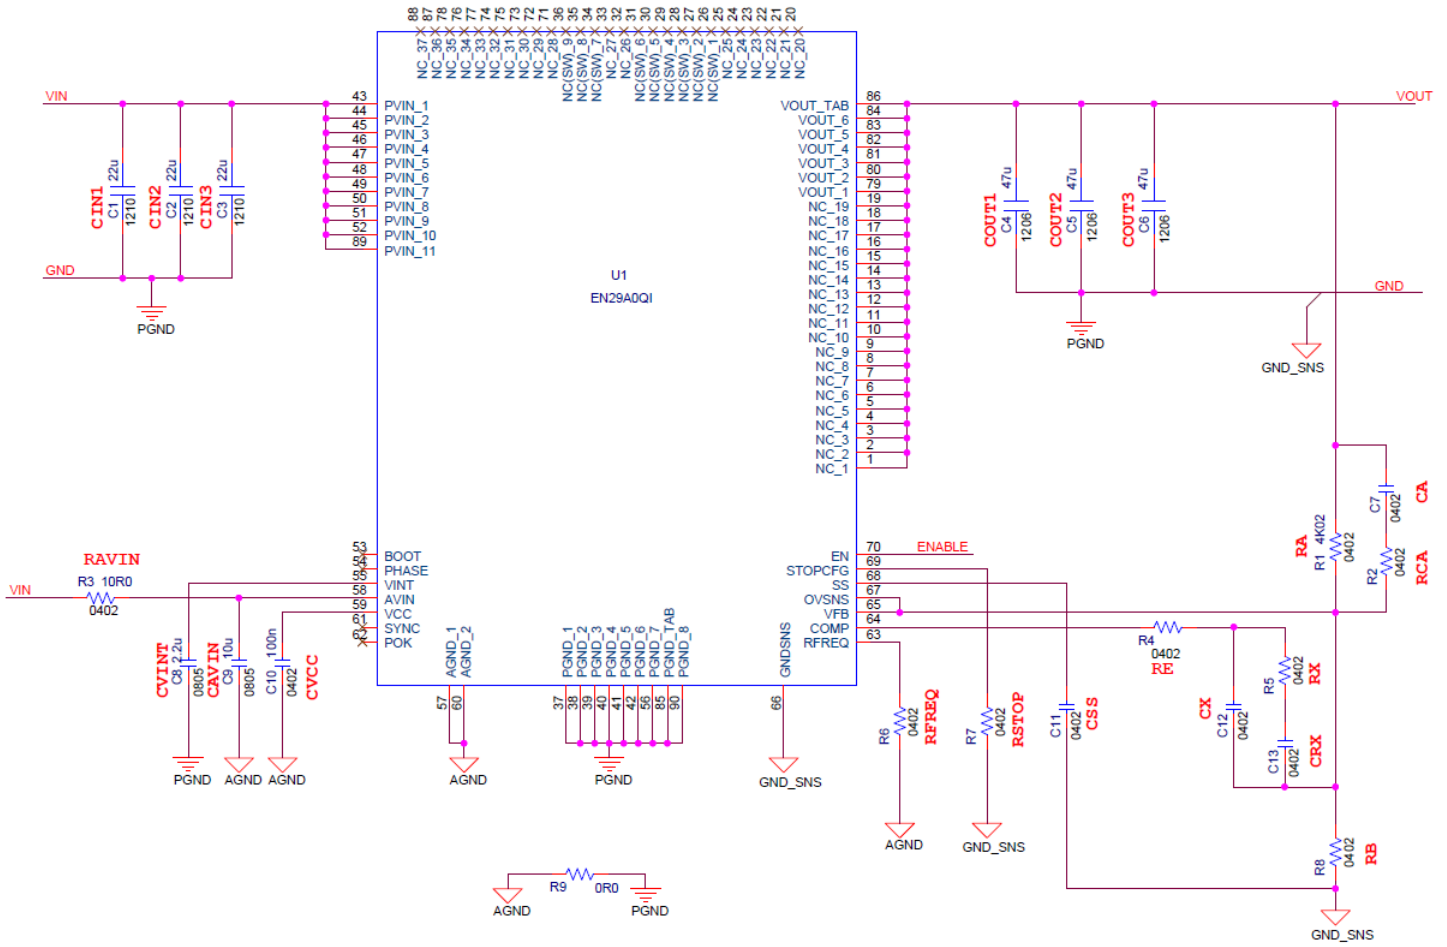
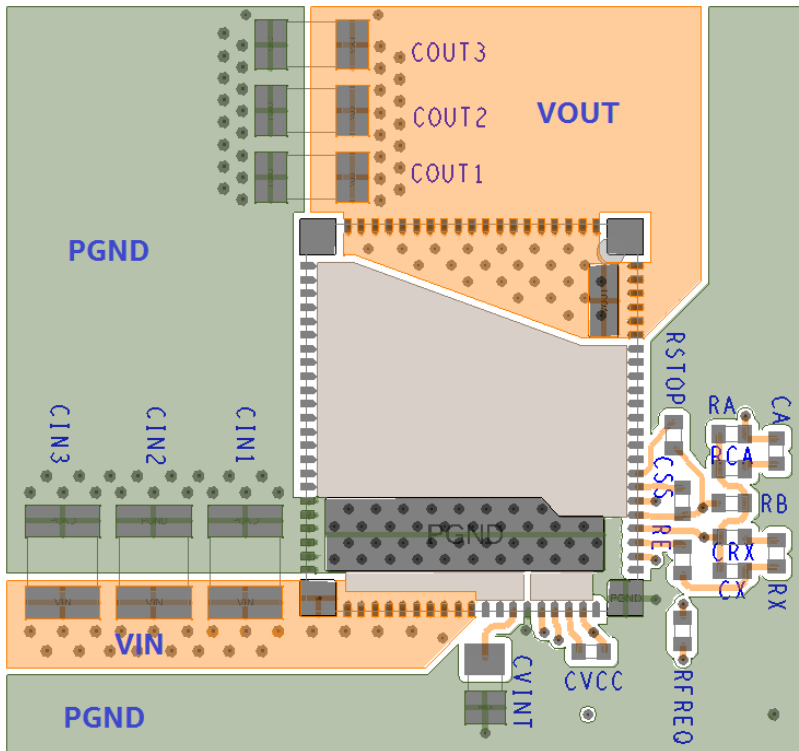
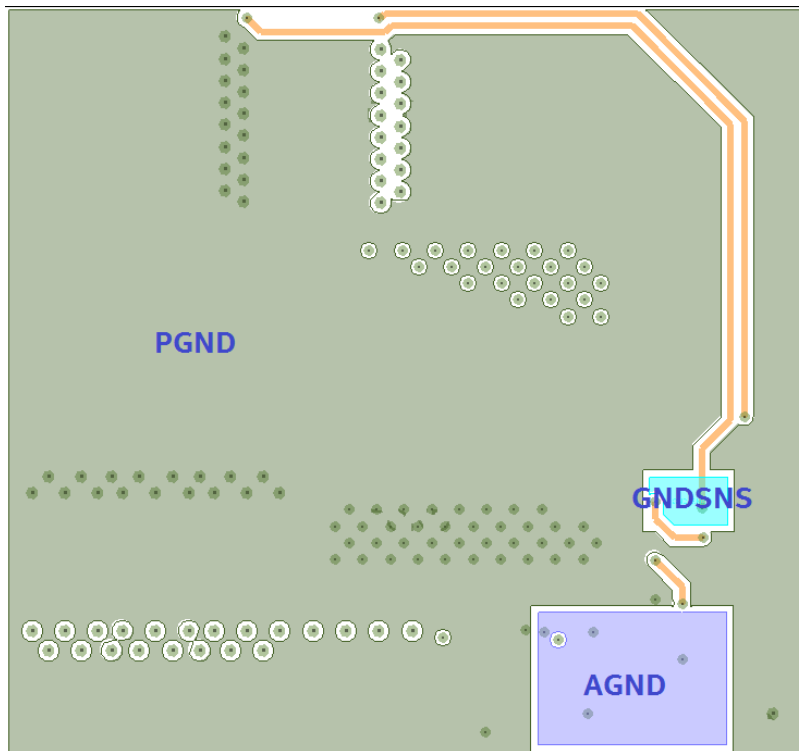

Figure 9: Typical Application Circuit
Figure 10: Top PCB Layer Critical Components and Copper for Minimum Footprint (Top View)
Figure 12: Inner Layer 3 – Grounds
Figures 10-13 shows critical components and traces of a recommended minimum footprint EN29A0QI layout. The Gerber files are available on the Altera website [www.altera.com/enpirion](http://www.altera.com/enpirion) for exact dimensions. Please refer to Figure 9 for the corresponding schematic.
**Recommendation 4:** The corner pads (Pins 87-90) are not connected internally and maybe connected to nearby planes for ease of layout. Figure 9 and Figure 10 show Pin 89 connected to the VIN plane and Pin 90 connected to the PGND plane.
**Recommendation 8:** Keep  $R_A$ ,  $C_A$ ,  $R_{CA}$ ,  $R_X$ ,  $C_X$ ,  $R_{CX}$  and  $R_B$  close to the VFB pin (see Figure 10). Keep the trace to VFB pin as short as possible. Whenever possible, connect  $R_B$  directly to the GNDSNS pin instead of going through the GND plane. The AGND should connect to the PGND at a single point from the AGND pin to the 3rd layer PGND plane (shown in Figure 12).
**Recommendation 9:** The layer 1 metal under the device must not be more than shown in Figure 10. See the following section regarding **Exposed Metal on Bottom of Package**. As with any switch-mode DC/DC converter, try not to run sensitive signal or control lines underneath the converter package on other layers.